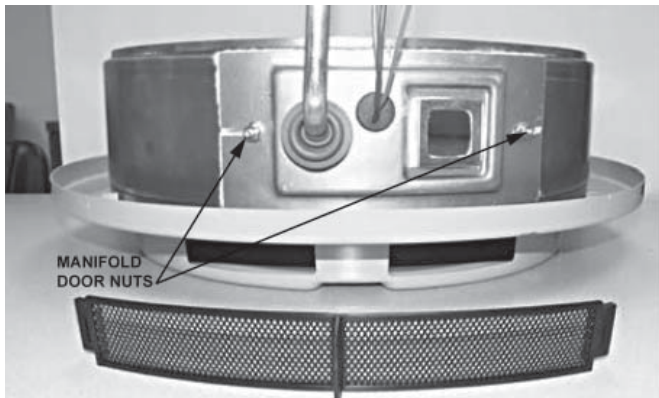

Figure 4
5. Remove the 3/8" manifold door nuts, holding the inner door and white gasket in place, see Figure 4.